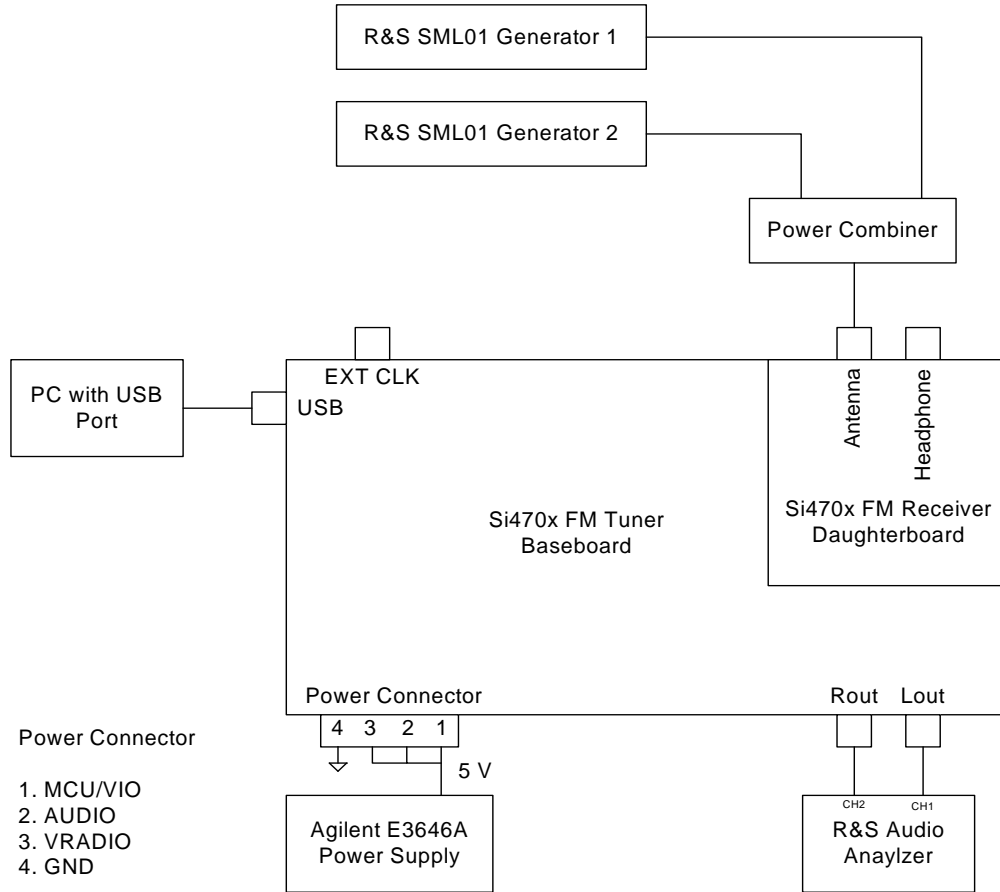

Figure 1. Si4700/01/02/03/08/09 FM Tuner Setup
1. Connect test equipment as shown in Figures 1, 2, or 3.